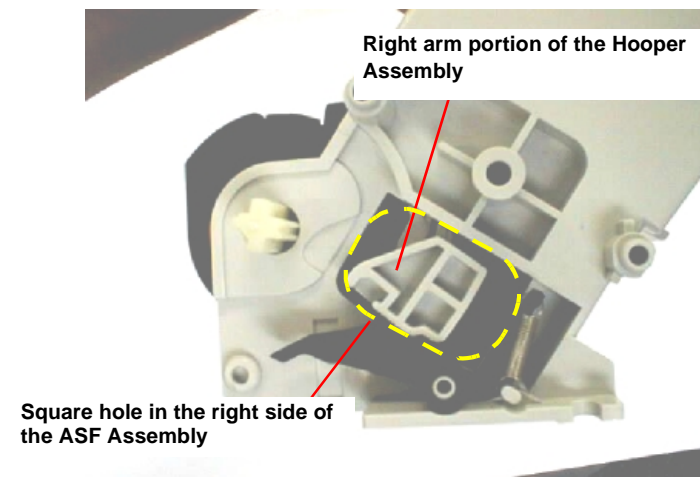

Figure 4-36. Setting the Right Arm of Hopper Assembly
- 7) Set the right arm portion of the Hopper Assembly to the square hole in the right side of the ASF Frame and remove the Hopper Assembly carefully. Refer to Figure 4-36.